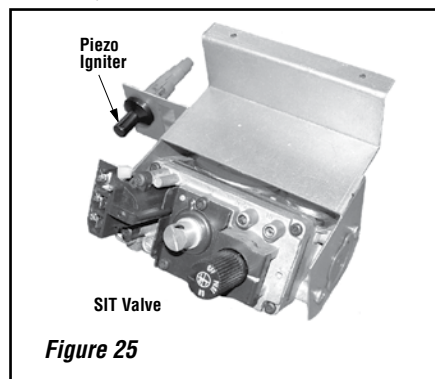

Figure 25
Step 9. Checking the System – With gas line installed run initial system checkout before closing up the front of the unit. Follow the pilot lighting instructions provided in the Homeowner's Care and Operation Instructions. For piezo igniter location see **Figure 25** (millivolt appliances only).